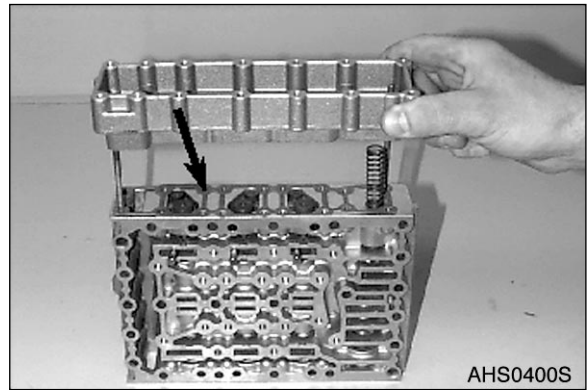
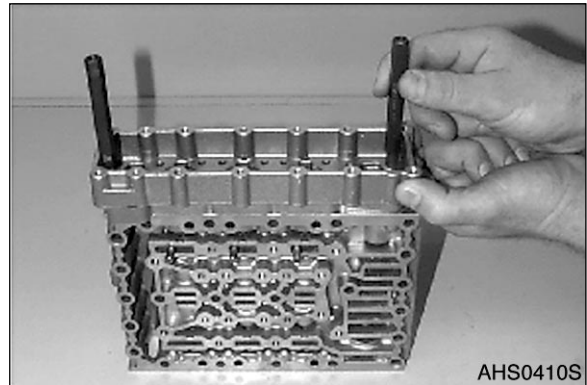

Figure 57
Figure 58
4. Line up flat gasket (Arrow) and housing cover (Figure 57). Now, bring housing cover using adjusting screws uniformly against shoulder (Figure 58).